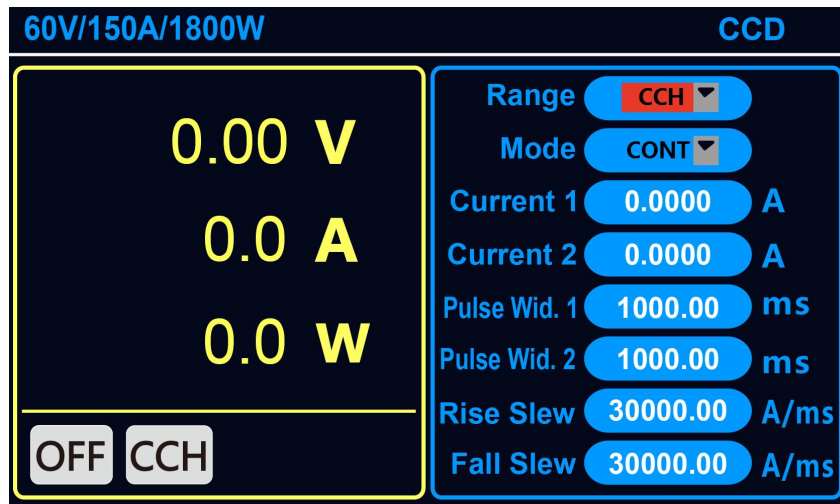

Figure 28 CCD
11. Press the "ON/OFF" key, the display channel status is identified as "ON", as shown in Figure 28;